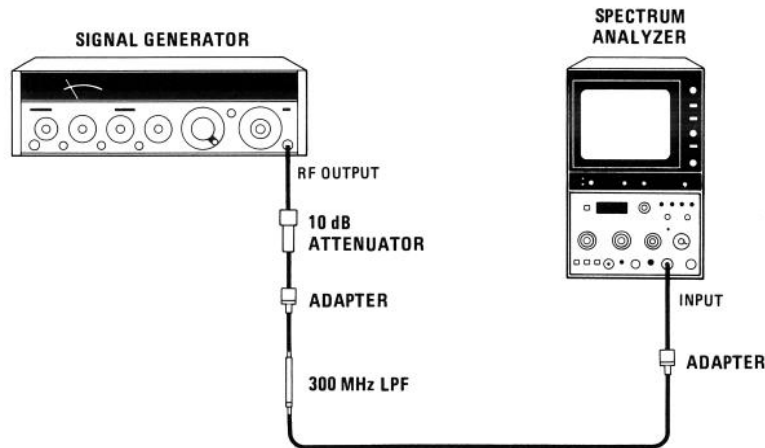

FIGURE 4-13. HARMONIC DISTORTION TEST SETUP
3. Connect equipment as shown in Figure 4-13.